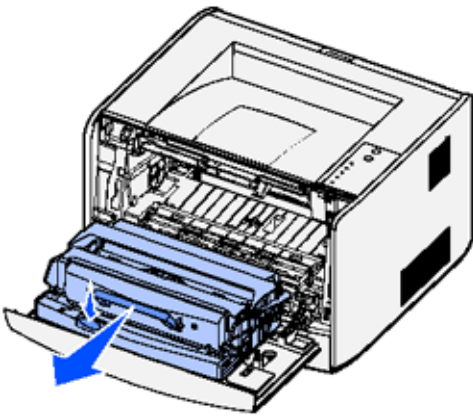

Figure 2: Remove the Toner Cartridge
3. Open the front cover and remove the toner cartridge assembly (**Figure 2**).